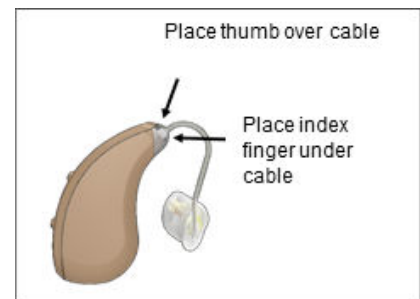

Figure 41. Ear Tip Removal
- Hold the Processor in one hand and with the other hand place your index finger under the cable where it connects to the Processor with the thumb on top of the cable (Figure 41).